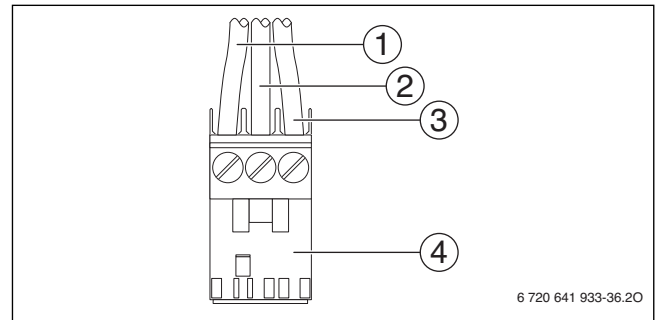

Fig. 55 Attach plug (mains power supply)
- ▶ Connect cable to **the white plug** according to Fig. 55.
- ▶ Connect the lead labeled BOILER GROUND (green) to pin 2 (center, → Fig. 55 [2]) of the white plug in the boiler junction box.